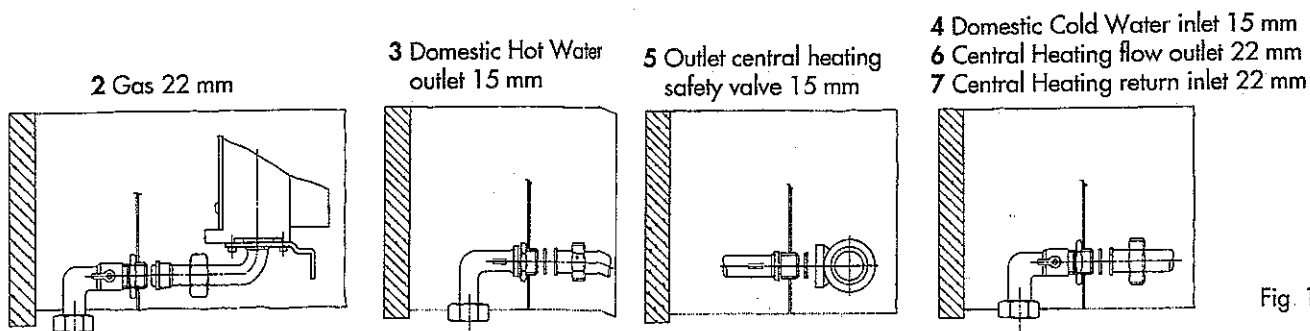

Fig. 11
- 4.3 From left to right fit gas cock and water valves as follows (fig. 11) using appropriate washer.
- 5.4 Connect installation pipe work to boiler valves in the order shown in fig. 11.
Open the central heating flow and return cocks (fig. 11).
Close all hot water draw off points. Open main cold water stop cock and ensure the cold water inlet cock is open at the boiler jig bracket (fig. 11). Slowly open each hot tap in turn until clean water, free from air pockets, is seen.